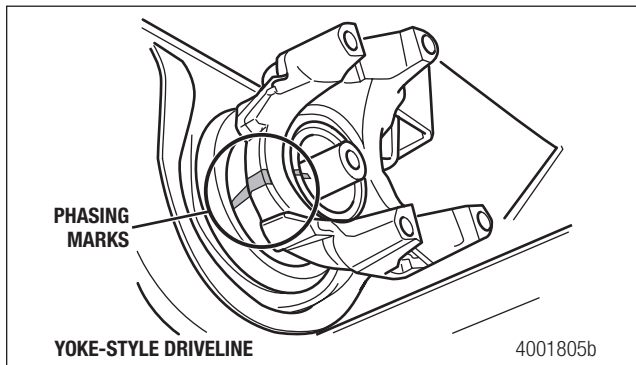
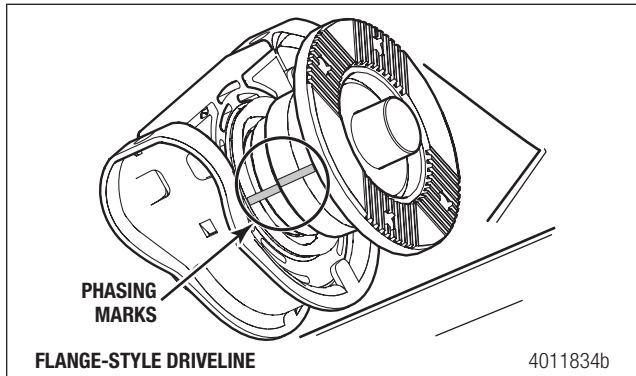

Figure 10.6
Figure 10.7
2. Mark the end yoke or flange counterbore to the coupling shaft "nose." This will help you to reassemble the center bearing end yoke or flange in its original phased position. Figure 10.6 and Figure 10.7.
5. Use a rubber hammer to tap the yoke or flange onto the coupling shaft splines. The phasing marks on the driveline must be aligned. Figure 10.6 and Figure 10.7. Continue to tap the yoke or flange until it is completely seated against the center bearing. Do not use the nut to draw the yoke or flange down.